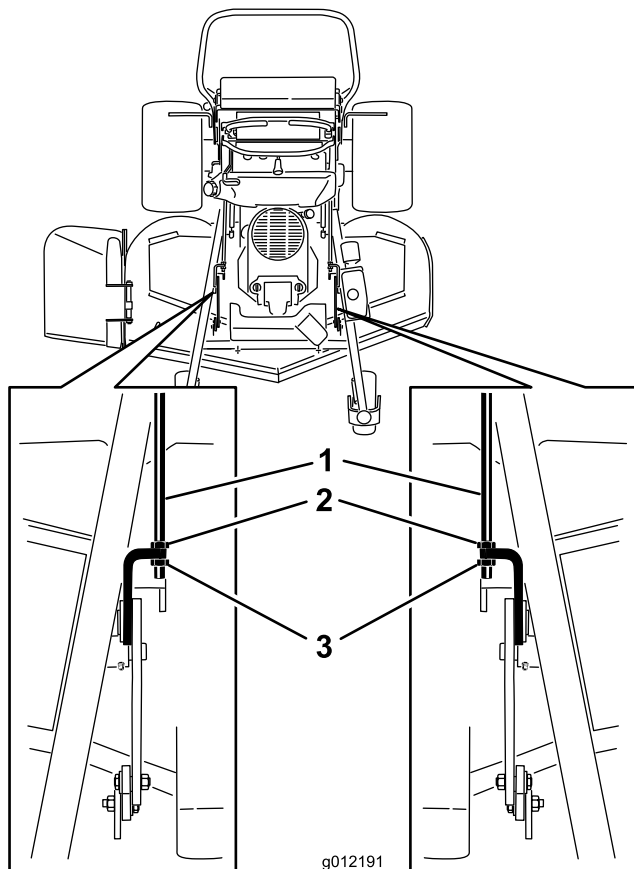

Figure 85
2. Loosen both the front and rear nuts on the adjustment rods (Figure 85).
3. The weight of the mower deck must be resting on all three of the 2x4's (Figure 85). The back lip of the mower deck is built a 1/4 inch (6mm) lower than the front lip of the mower deck.
6. If the dimensions are not correct, adjust the front and rear nuts on either side to get the correct front-to-rear pitch (Figure 85).